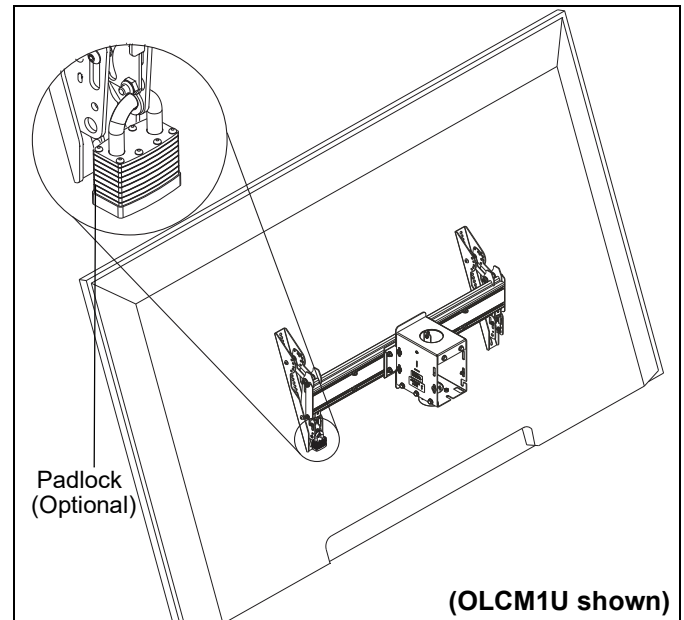

Figure 14
1. Add padlock (not included) to each interface bracket to lock latch and to provide security for displays. (See Figure 14)